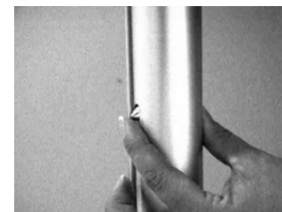

Figure 65
- c) Press in metal pin on both sides of the post (see Figure 65).